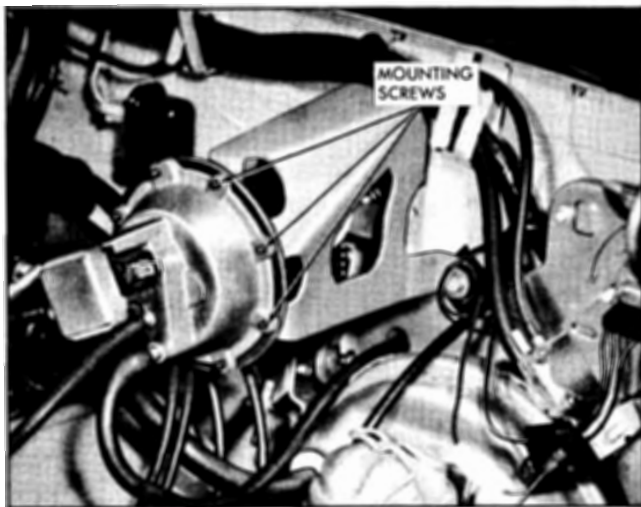

Fig. 12-8 Removal of Power Unit
4. Remove the three screws holding the power unit and cover assembly to the power unit pulley and bracket assembly which is fastened to the fire wall. Fig. 12-8.